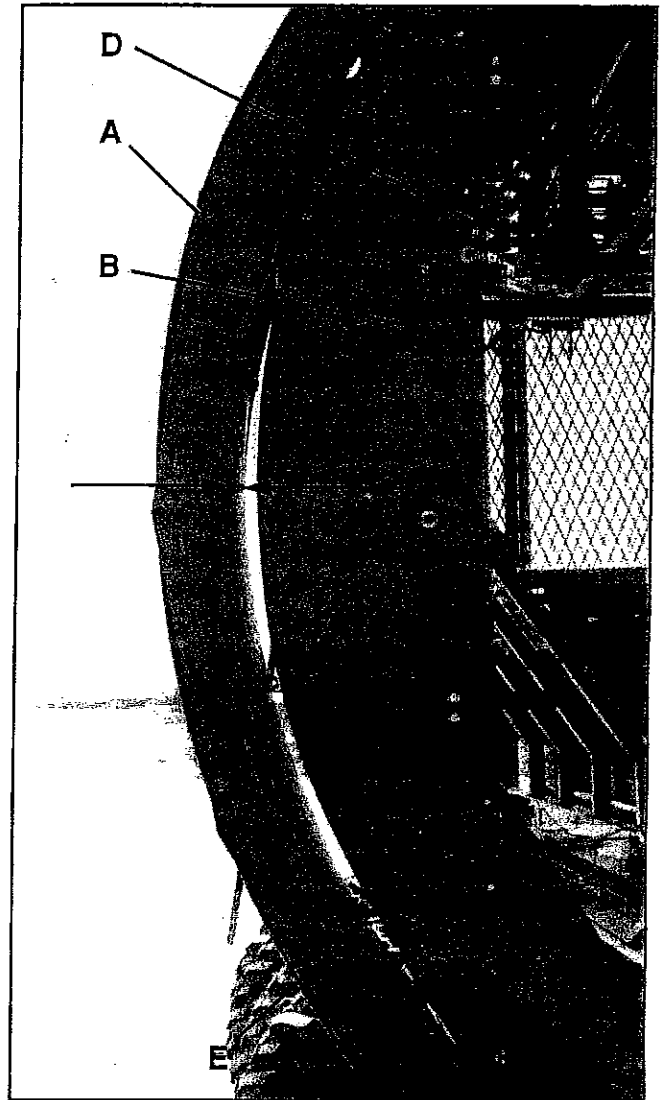
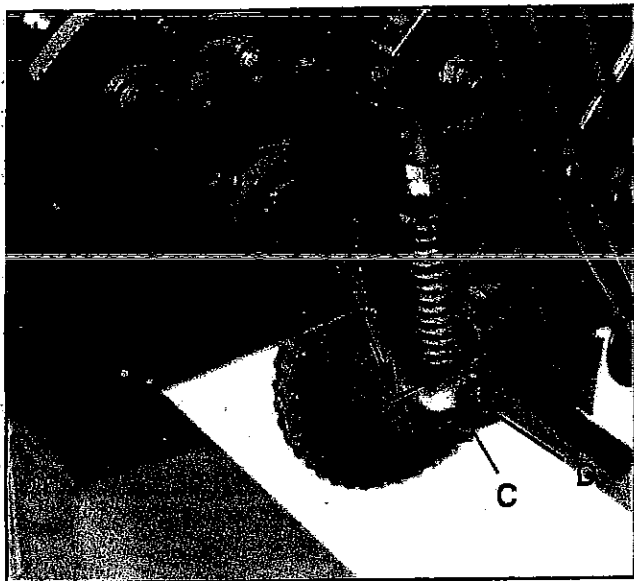
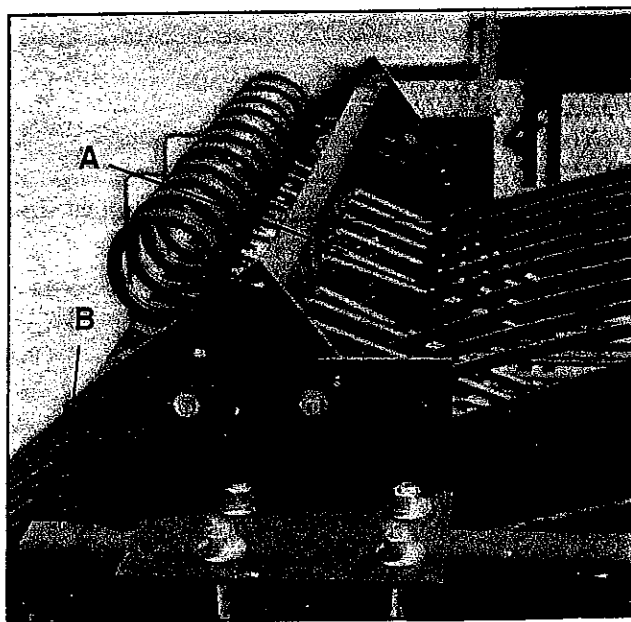

FIGURE 32 - WHEEL ELEVATOR
FIGURE 33 - WHEEL ELEVATOR DRIVE
FIGURE 34 - STRIPPER/STRIPPER ADJUSTMENT
The wheel elevator (A) (see Figure 32) revolves at approximately 11 rpm at 1000 PTO rpm. The beets are carried up to the truck elevator as the wheel revolves in the direction of travel. The retainer (B) holds the beets in the wheel until they get to the top and fall into the truck elevator. The stripper (see Figure 34, page 22) keeps trash and wet soil from building up between rods. Optional rubber mud flaps can be installed to keep stones from wedging and reduce chances of soil build-up.
Loosen jam nut (A) (see Figure 33, page 22) and turn adjusting nut (B). Check this adjustment by pulling the chain *away from* the rear of the wheel elevator. A distance between 1/2" and 1-1/2" indicates proper chain tension (see arrows, Figure 32).
Set dampener spring length to 6-3/4" by loosening jam nut (C) (see Figure 33) and turning adjusting nut (D).
Operate the elevator until the chain connector link is positioned near the drive shaft for easy removal. Loosen jam nut (A) and turn adjusting nut (B) until maximum chain slack is obtained, then disconnect chain (see Figure 33).
The stripper is an adjustable device fitted with several replaceable coil spring tines which help to keep the elevator clear of trash and soil build-up. The stripper rods (A) (see Figure 34) must be centered between the wheel elevator rods so they do not make continuous contact. Adjust rod tips at an angle where they do not interfere with the cross tube weldments, but still help deflect the beets downward into the truck conveyor.
Turn the wheel elevator through one or two complete revolutions and slide stripper supports (B) (see Figure 34) right or left to eliminate interference.
The retainer and rods keep the beets from falling out of the wheel elevator on the way up. The retainer frame must be centered right-and-left and front to back with the wheel elevator. The distance between the retainer and the wheel elevator must be the same at the top (D) (see Figure 32, page 21) as it is at the bottom (E) (see Figure 32, page 21). Make this adjustment at the top attaching point. Make sure the retainer does not make contact with the truck elevator.